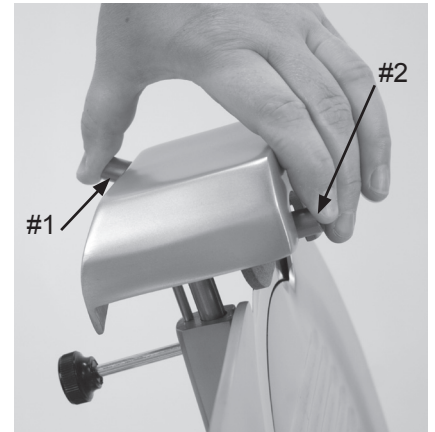

Figure 15-1
2. Push the grinding stone button #1 (Fig. 15-1) and the honing stone button #2 at the same time so both stones make contact with the knife. Maintain pressure on the buttons for 5-10 seconds.
2. Push the grinding stone button #1 (Fig. 15-1) so the stone sharpens the back side of the knife. Maintain pressure on the button for 30 seconds.
3. Push the grinding stone button #1 (Fig. 15-1) and the honing stone button #2 at the same time so both stones make contact with the knife. Maintain pressure on the buttons for 5 seconds.